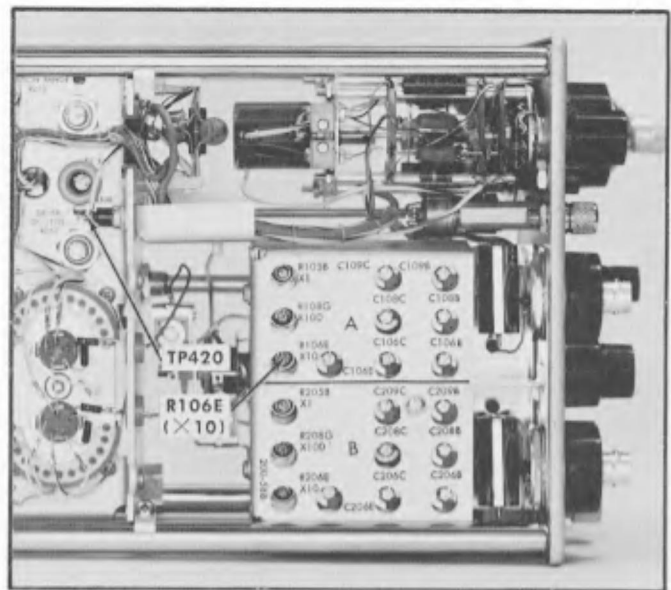
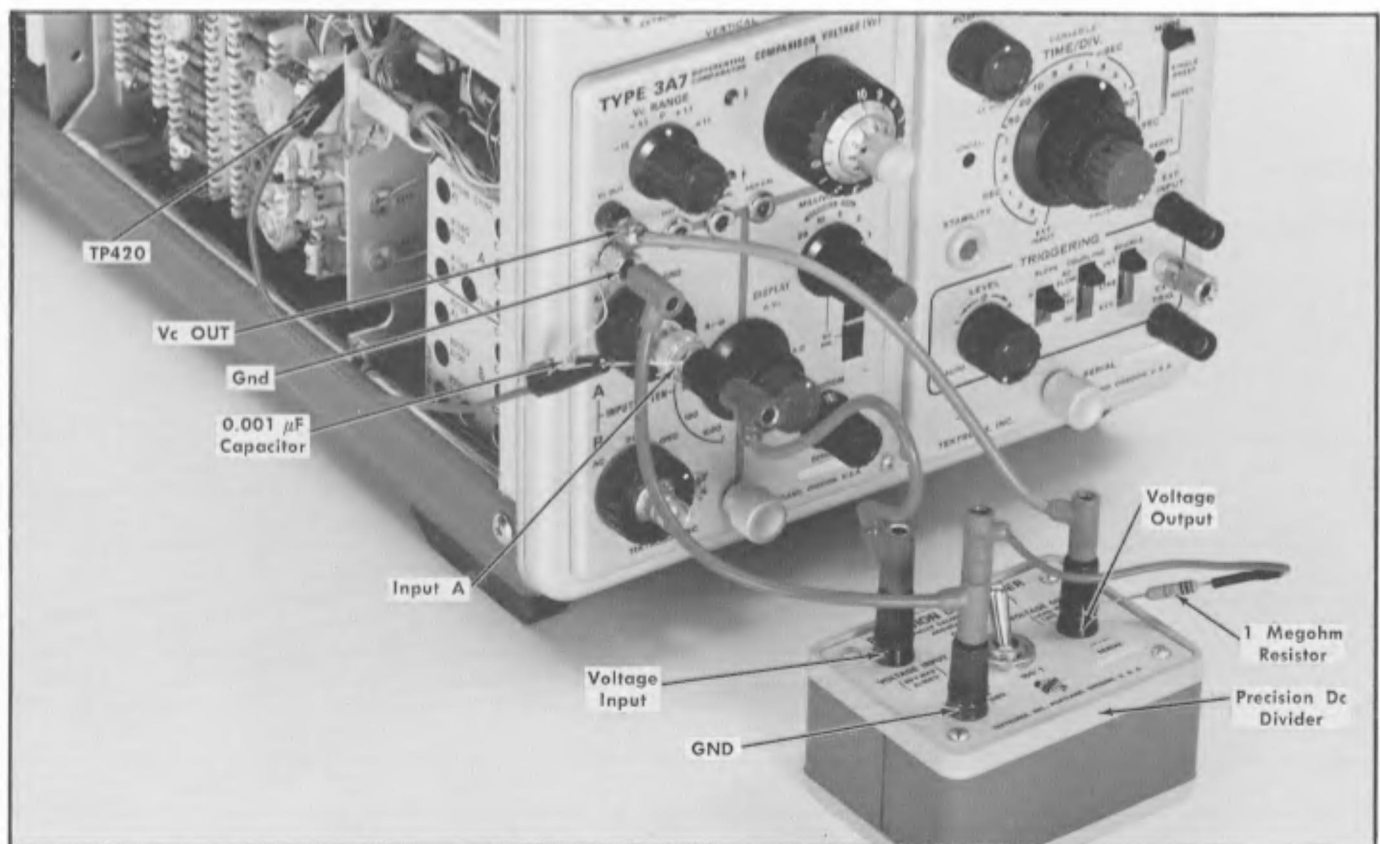

Fig. 5-33. Location of step 26 test point and adjustment.
Fig. 5-34. Setup at completion of step 26h.
c. Connect a short jumper lead from the A input connector adapter to TP420 (see Fig. 5-33).
d. Connect a short patch cord from the A input connector adapter to the Precision Dc Divider (item 9) Voltage Input connector.
h. Set the Precision Dc Divider 10:1-100:1 switch to 10:1. Fig. 5-34 shows a close-up view of the setup.
l. Adjust R106E (see Fig. 5-33) so the trace is returned to graticule center.
g. Set the Precision Dc Divider 10:1-100:1 switch to 10:1. (This is the same setup as shown in Fig. 5-34 except the B input connector is used.)